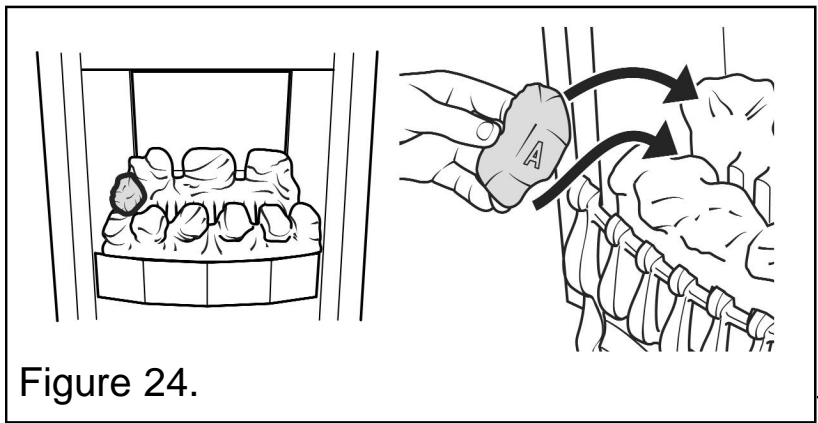

Figure 24.
3. Place a type “A” coal between the front and rear base coals with the letter “A” upright and so that the coal is against the left side of the firebox. See figure 24.